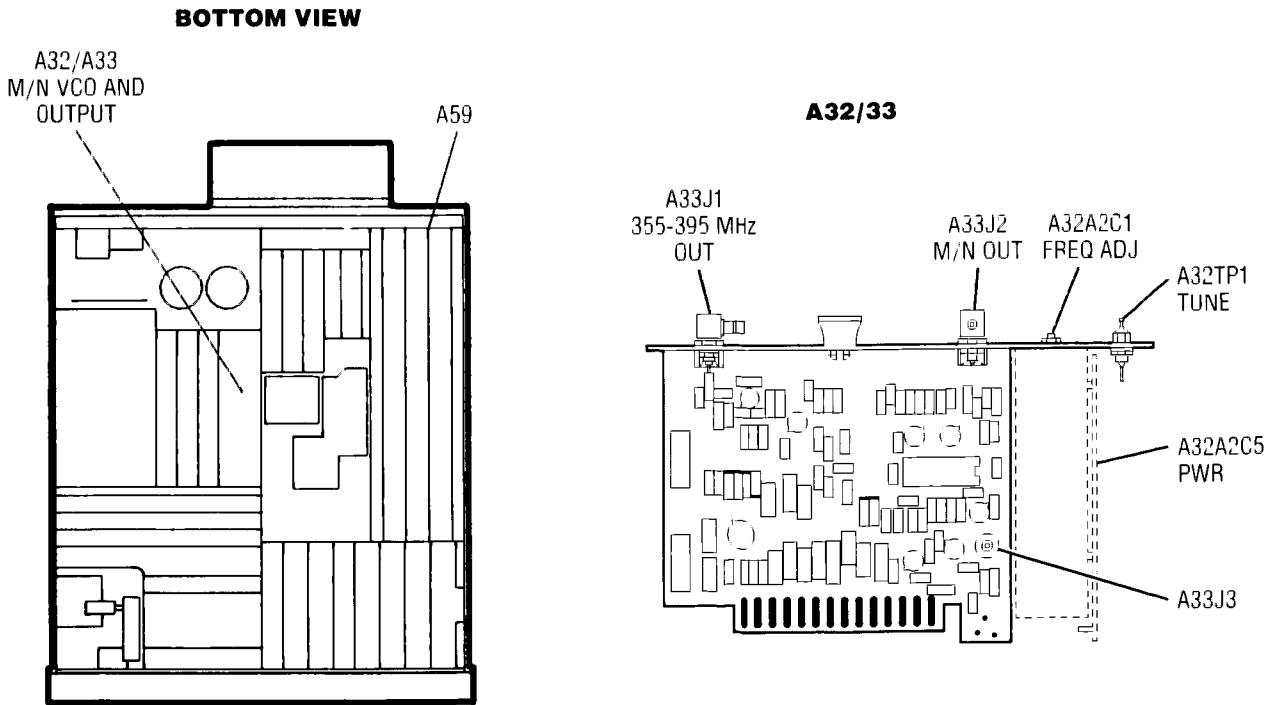

Figure 5-8. Location of M/N Loop Adjustments
6. Connect DVM to A32TP1 TUNE test point. Refer to Figure 5-8 for location of A32 assembly.
12. Disconnect the A32 output cable A32A1W1 from A33J3 (Figure 5-8) and connect this cable using SMB male-to-male adapter to the input of the Spectrum Analyzer. Set the DUT's LINE switch to ON and press **[INSTR PRESET]**
15. Adjust A32A2C5 PWR for a VCO output level of 0 dBm ± 2 dB as indicated on Spectrum Analyzer. Refer to Figure 5-8 for location of adjustment.